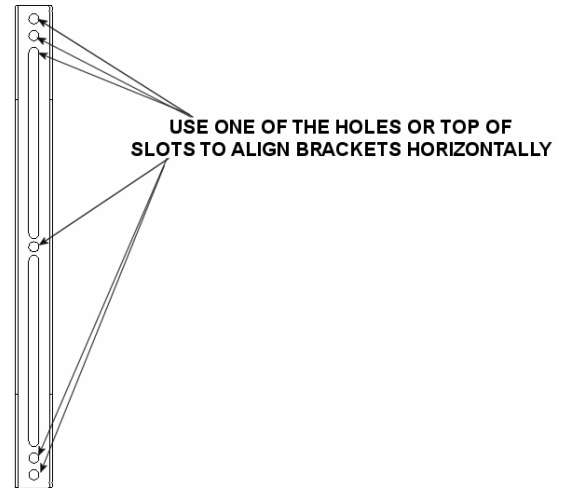
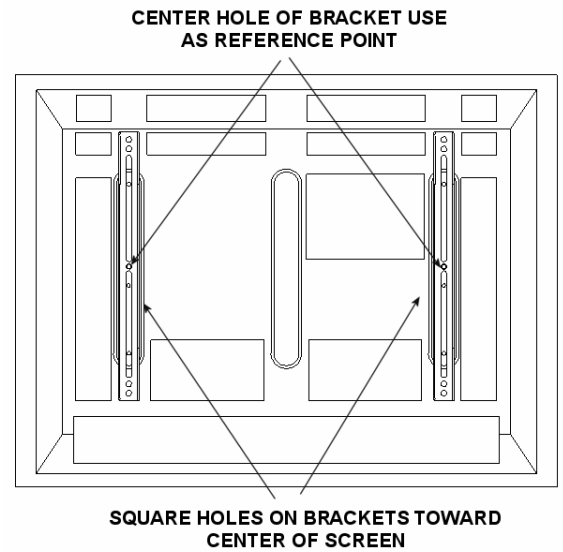

Figure 2. Place Brackets on Display
Figure 3. Align Holes
1. Place the interface brackets (20) on the back of the display, aligning one of the holes or top of the slots as a reference point to align horizontally with the square holes facing toward the center of the display (see Figure 2 and Figure 3).